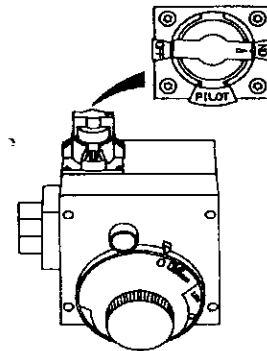

Figure 12
11. At arms length away, turn gas control knob counter clockwise () to the full "ON" position. **WARNING Do not use gas control knob to regulate gas flow.** (Figure 12, page 18)